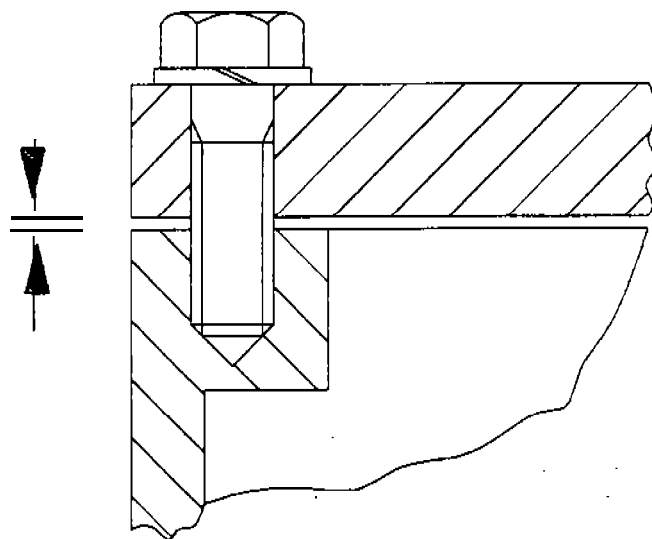

FIGURE 4
- (WEEKLY) 5. () Headlight switch cover is properly installed with all bolts and lockwashers in place and tight (Figure 4).
(WEEKLY) 3. () "Alternator Covers" are properly installed with all bolts and lockwashers in place and tight (Figure 4).